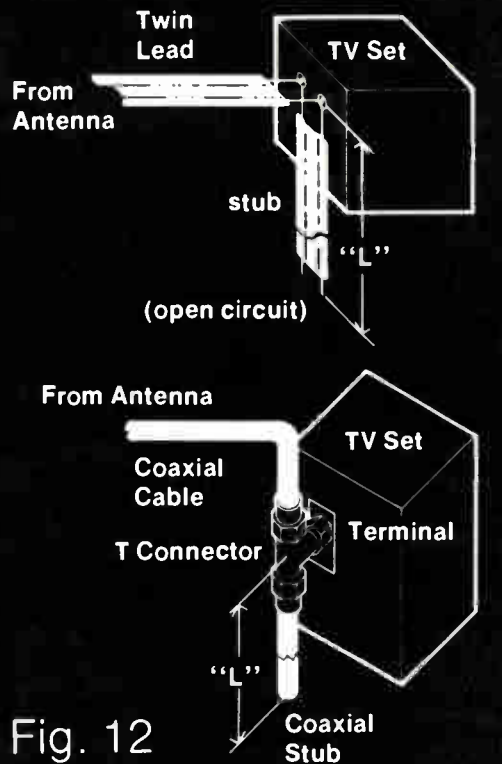

Fig. 12
3. Another type of stub, called an open circuit quarter-wave type, can be made from the same type of wire as the antenna lead-in wire (see Figure 12). The initial length of the stub should be 24" for RG-59/U coaxial cable or 29" for 300 ohm twin-lead wire. For other cables, the initial length can be determined by the general formula: